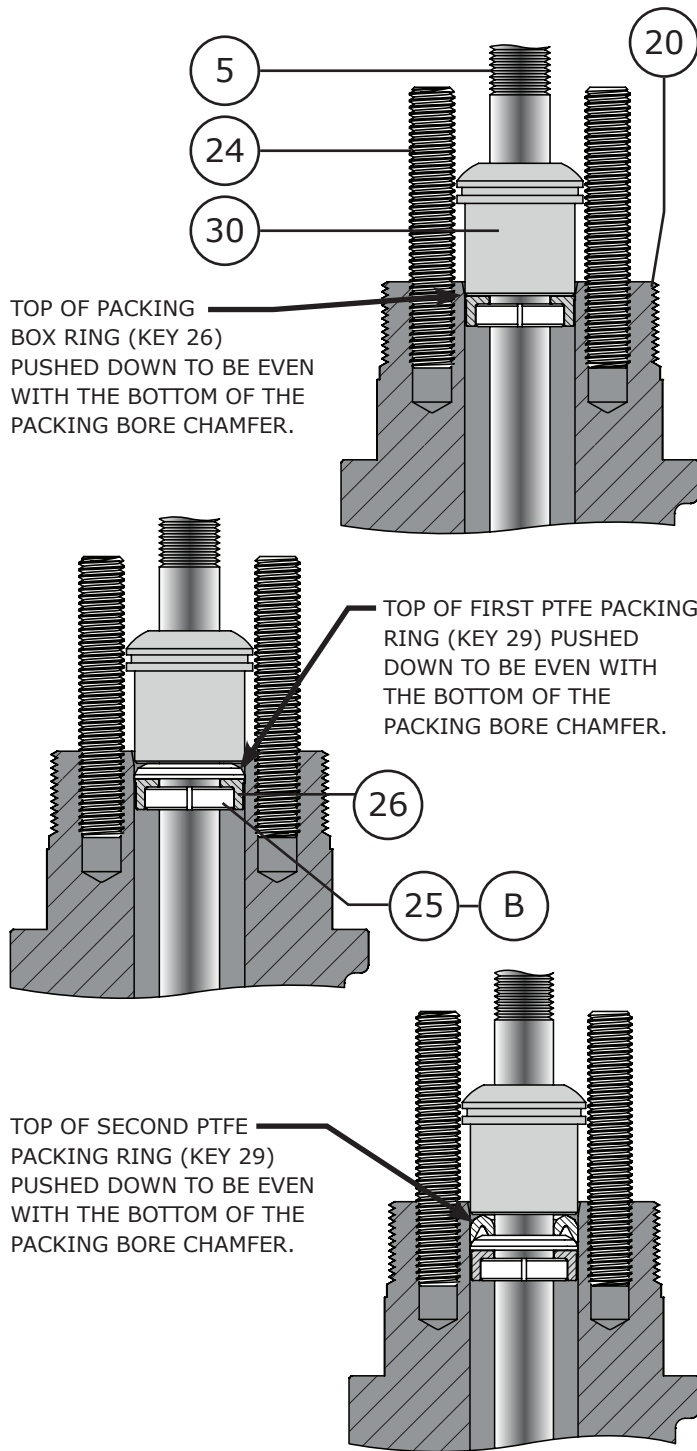

Figure 27 Proper Packing Ring Installation
NOTE: To prevent trapping air between packing during installation, it is recommended that packing rings be installed one at a time using the packing follower (Key 30) to push the packing rings in place. Do not force packing rings below the chamfer of the packing bore before adding another ring, packing rings should only be pushed down the thickness of the added ring. Refer to Figure 27.
- 4** Apply silicone-based o-ring compound (Key C) to the PTFE packing rings (Key 29). Install the packing rings one ring at a time (as shown in Figure 27) in the proper order and orientation as shown in Figure 28. **WARNING:** For oxygen service do not apply silicone-based o-ring compound, silicone-based compound in oxygen service applications can cause an explosion.
- 2 Apply silicone-based o-ring compound (Key C) to the first set of packing rings (Key 29). Install the packing rings one ring at a time (as shown in Figure 27) in the proper order and orientation as shown in Figure 30. **WARNING:** For oxygen service do not apply silicone-based o-ring compound, silicone-based compounds in oxygen service applications can cause an explosion.
- 4 Apply silicone-based o-ring compound (Key C) to the second set of packing rings (Key 29). Install the packing rings one ring at a time (as shown in Figure 27) in the proper order and orientation as shown in Figure 30. **WARNING:** For oxygen service do not apply silicone-based o-ring compound, silicone-based compounds in oxygen service applications can cause an explosion.
- 4 Install 1 ring of graphite filament (Key 35) as shown in Figures 27 & 31. **NOTE:** Graphite filament is a wound material with a split that typically looks like rope.
- 5 Install 1 ring of graphite ribbon (Key 36) as shown in Figure 27 & 31. **NOTE:** Graphite ribbon is compressed into rings and not split like the graphite filament.
- 6 Install the remainder of the graphite filament (Key 35) and graphite ribbon (Key 36) one at a time (as shown in Figure 27) in the proper order and orientation as shown in Figure 31.